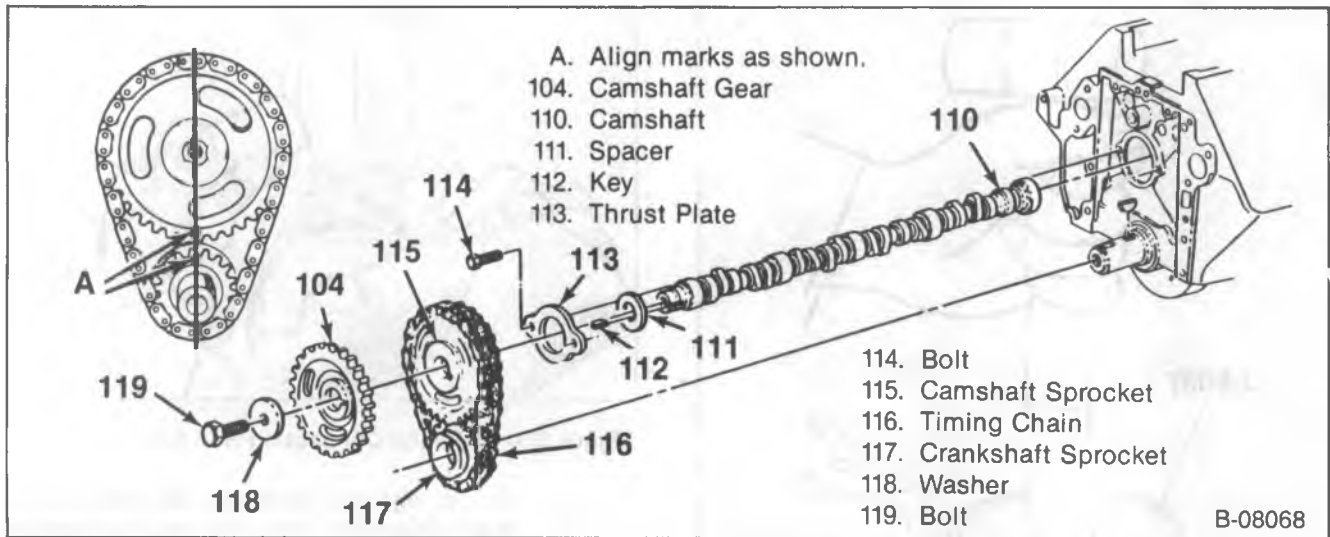

Figure 38—Camshaft and Components
Install or Connect (Figure 38)
**Install or Connect (Figure 38)**
1. Crankshaft sprocket (117).
2. Camshaft sprocket (115) with timing chain (116).
- Align the timing marks (figure 38).
3. Camshaft gear (104), washer (118) and bolts (119).
- Bolt (119) to 100 N·m (75 ft. lbs.).